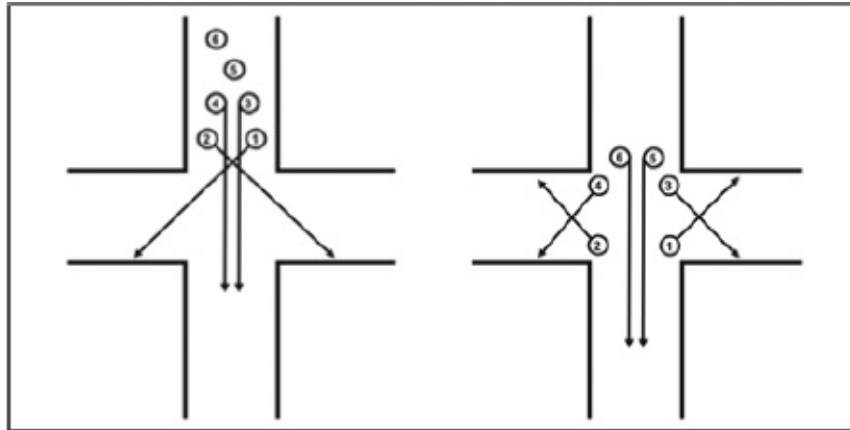

Figure 4-21. Three way intersection
g. Three-Way Intersection. (See Figure 4-21.)